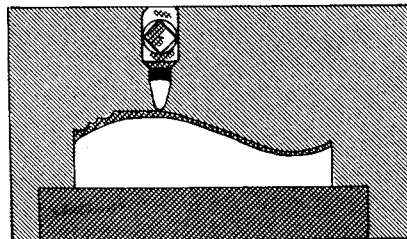

FIG. 515
4. Continue the process until the tool has reached the top of the curve (Fig. 515).